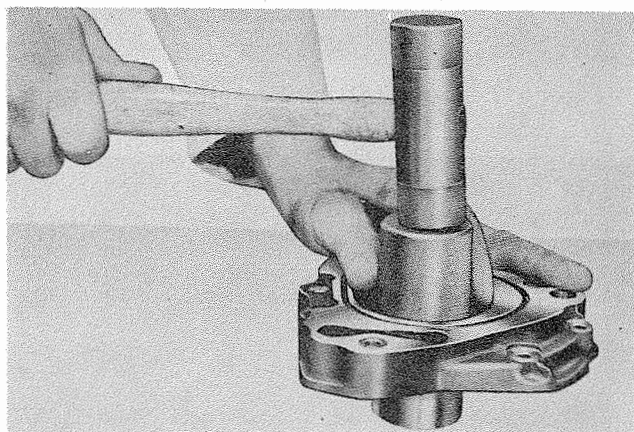

Figure 7-91. Installing Distributor Drive Oil Seal
- Liberaly coat a new oil seal with anti-seize compound, Lubriplate 130A, and install in the distributor adapter, using plug and base 807052. See figure 7-91.